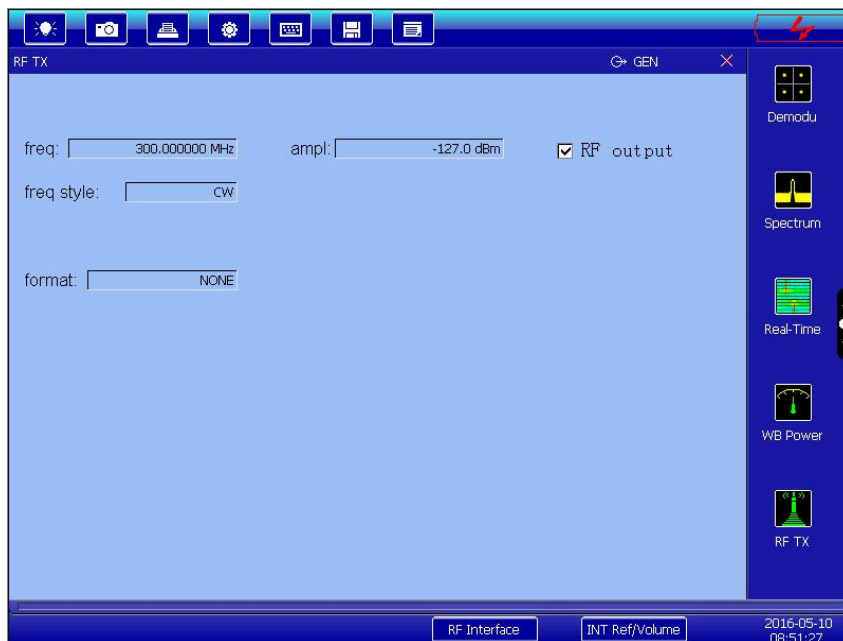

Fig. 4-1 RF TX startup interface
- 4) Click **RF output** in the upper left of the screen to enable the signal output function. After that, the dot frequency signal is output from the RF output connector, with the display interface shown in Fig. 4-1.